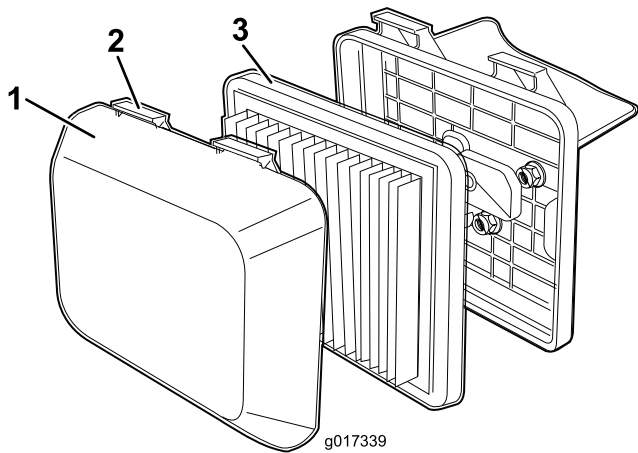

Figure 21
- Press down on the latch tabs on top of the air cleaner cover (Figure 21).
3. Remove the filter (Figure 21).